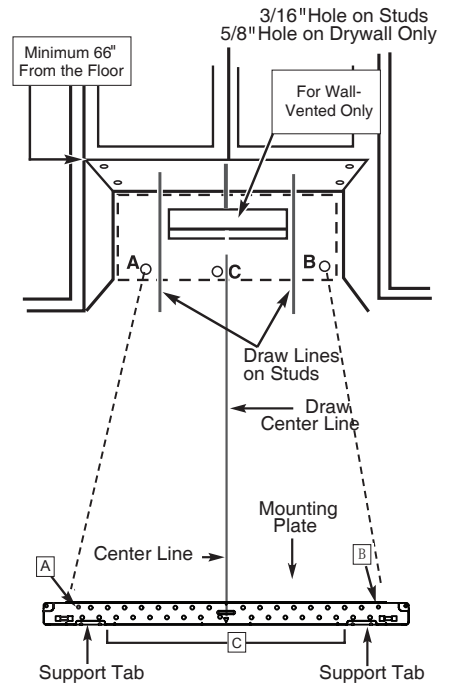
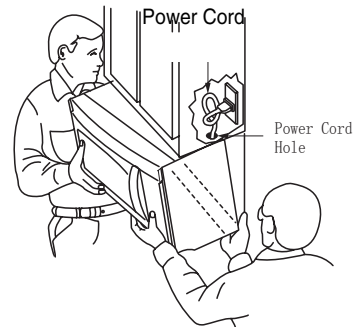

Figure 28
Figure 30
2. Drill holes at points A, B. Drill the third hole inside area C, through one of the bottom holes to match the location of a stud. If there is a stud, drill a 3/16" hole for lag screws. If there is no stud, drill a 5/8" hole for toggle bolts. These holes must be used for mounting. If the holes are not used, the installation will not be secure. Installer must use these holes for proper installation. See Figure 28. Use toggle bolts through these holes, unless one of them lines up with a stud. Use a wood screw for studs. Make sure to use at least 1 lag screw in a stud, and 2 toggle bolts in the drywall or the plaster.
1. Carefully lift microwave oven and hang it on support tabs (See Figure 28) at the bottom of the mounting plate. Reaching through upper cabinet, thread power supply cord through the power supply cord hole in the bottom of the upper cabinet. See Figure 30.